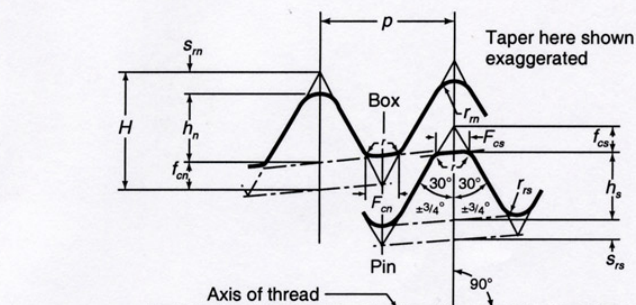

Figure 21—V-0.038 Product Thread Form
1. See Figures 21 and 22 and 22a.